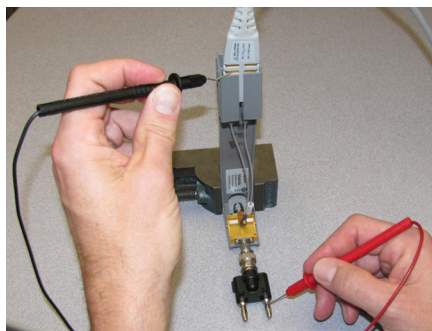

Figure 71 Measuring the single-ended input resistance of a ZIF or solder-in probe head
- 7 To measure the single-ended input resistance, measure the resistance between the signal plug of the banana adapter and the probe amplifier ground, which can be accessed as shown in **Figure 71** (through the vent window of the probe amplifier).